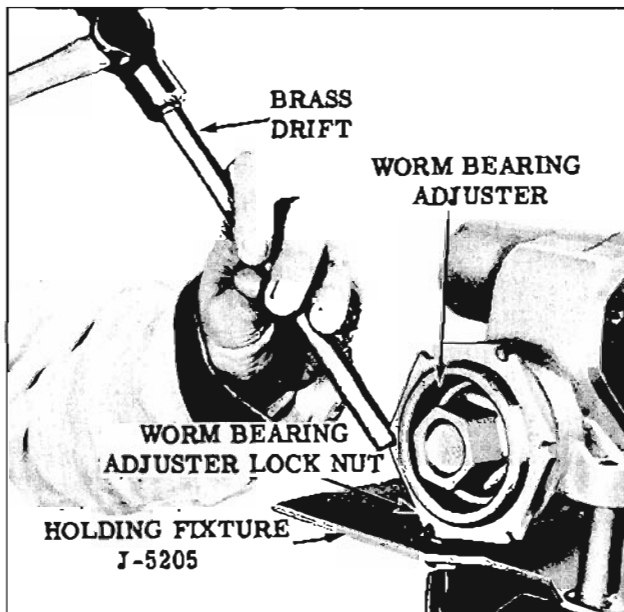

Fig. 8-9 Loosening Lock Nut
4. The torque required should be between 4 and 7 inch pounds. If it is not, it will be necessary to loosen the worm bearing adjuster locknut with a brass drift (Fig. 8-9) and turn the worm bearing adjuster the required amount to bring the torque within limits.